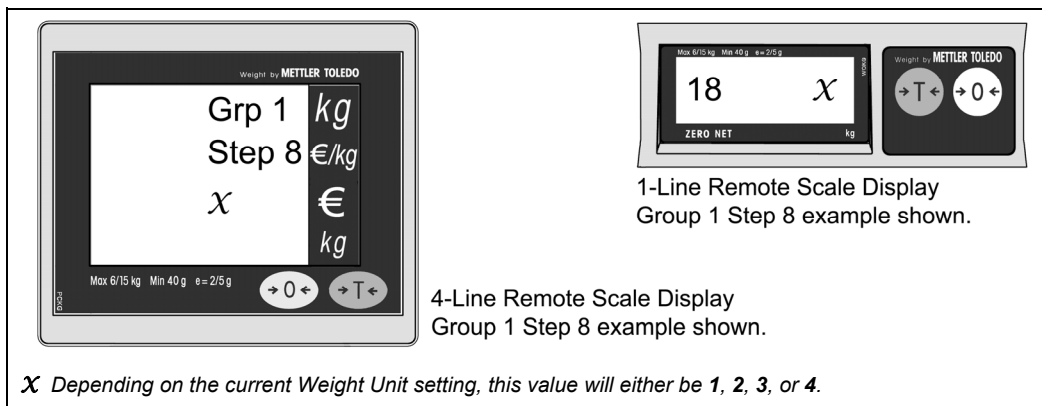

Figure 46. Remote Scale Display Group 1 Step 8 example shown
- Go to **Group 1 Step 8** (Weight Unit) of the Service Mode by pressing the Zero ($\rightarrow 0 \leftarrow$) key several times until 'Group 1 Step 8' is displayed on the Remote Scale Display screen (see Figure 46 below).